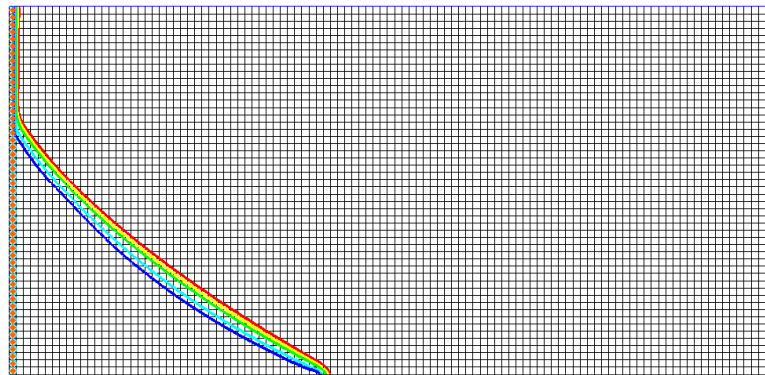

Figure 5 Time step 2 (after 5 minutes)
2. Select time step 2 in the time step window (Figure 5).